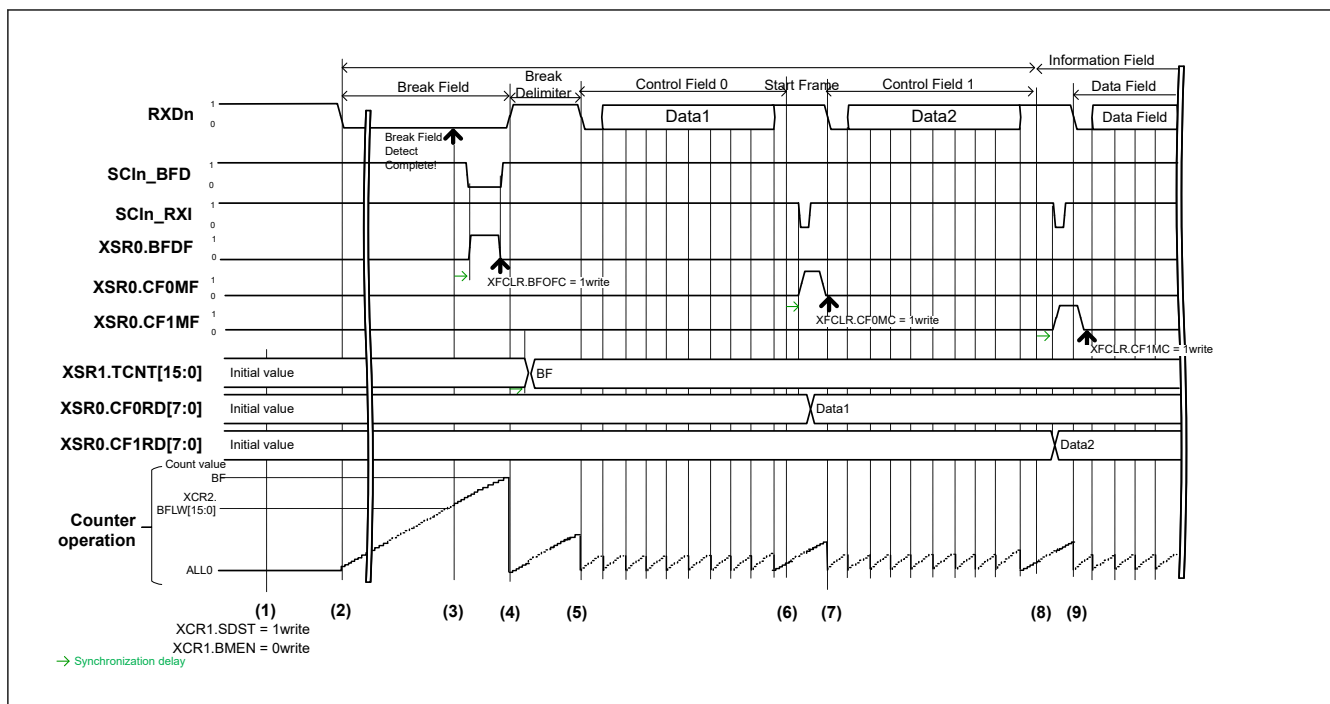
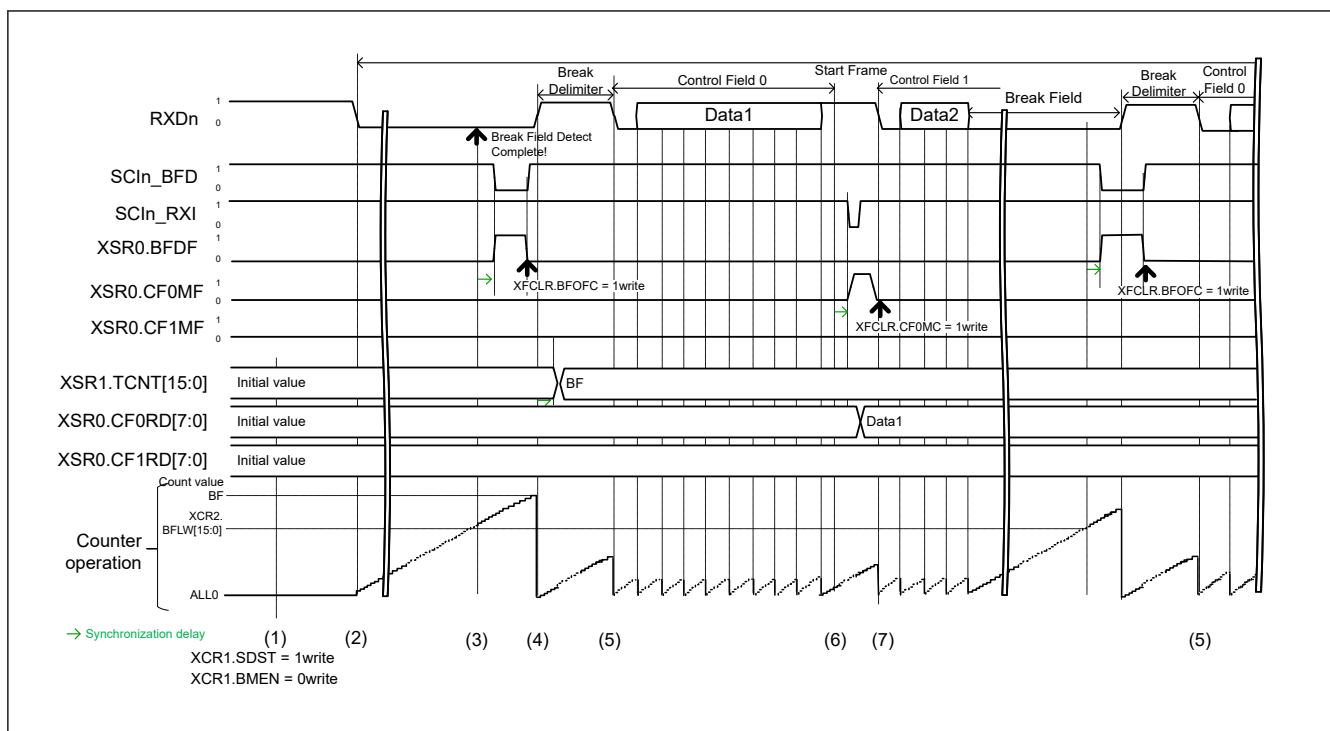
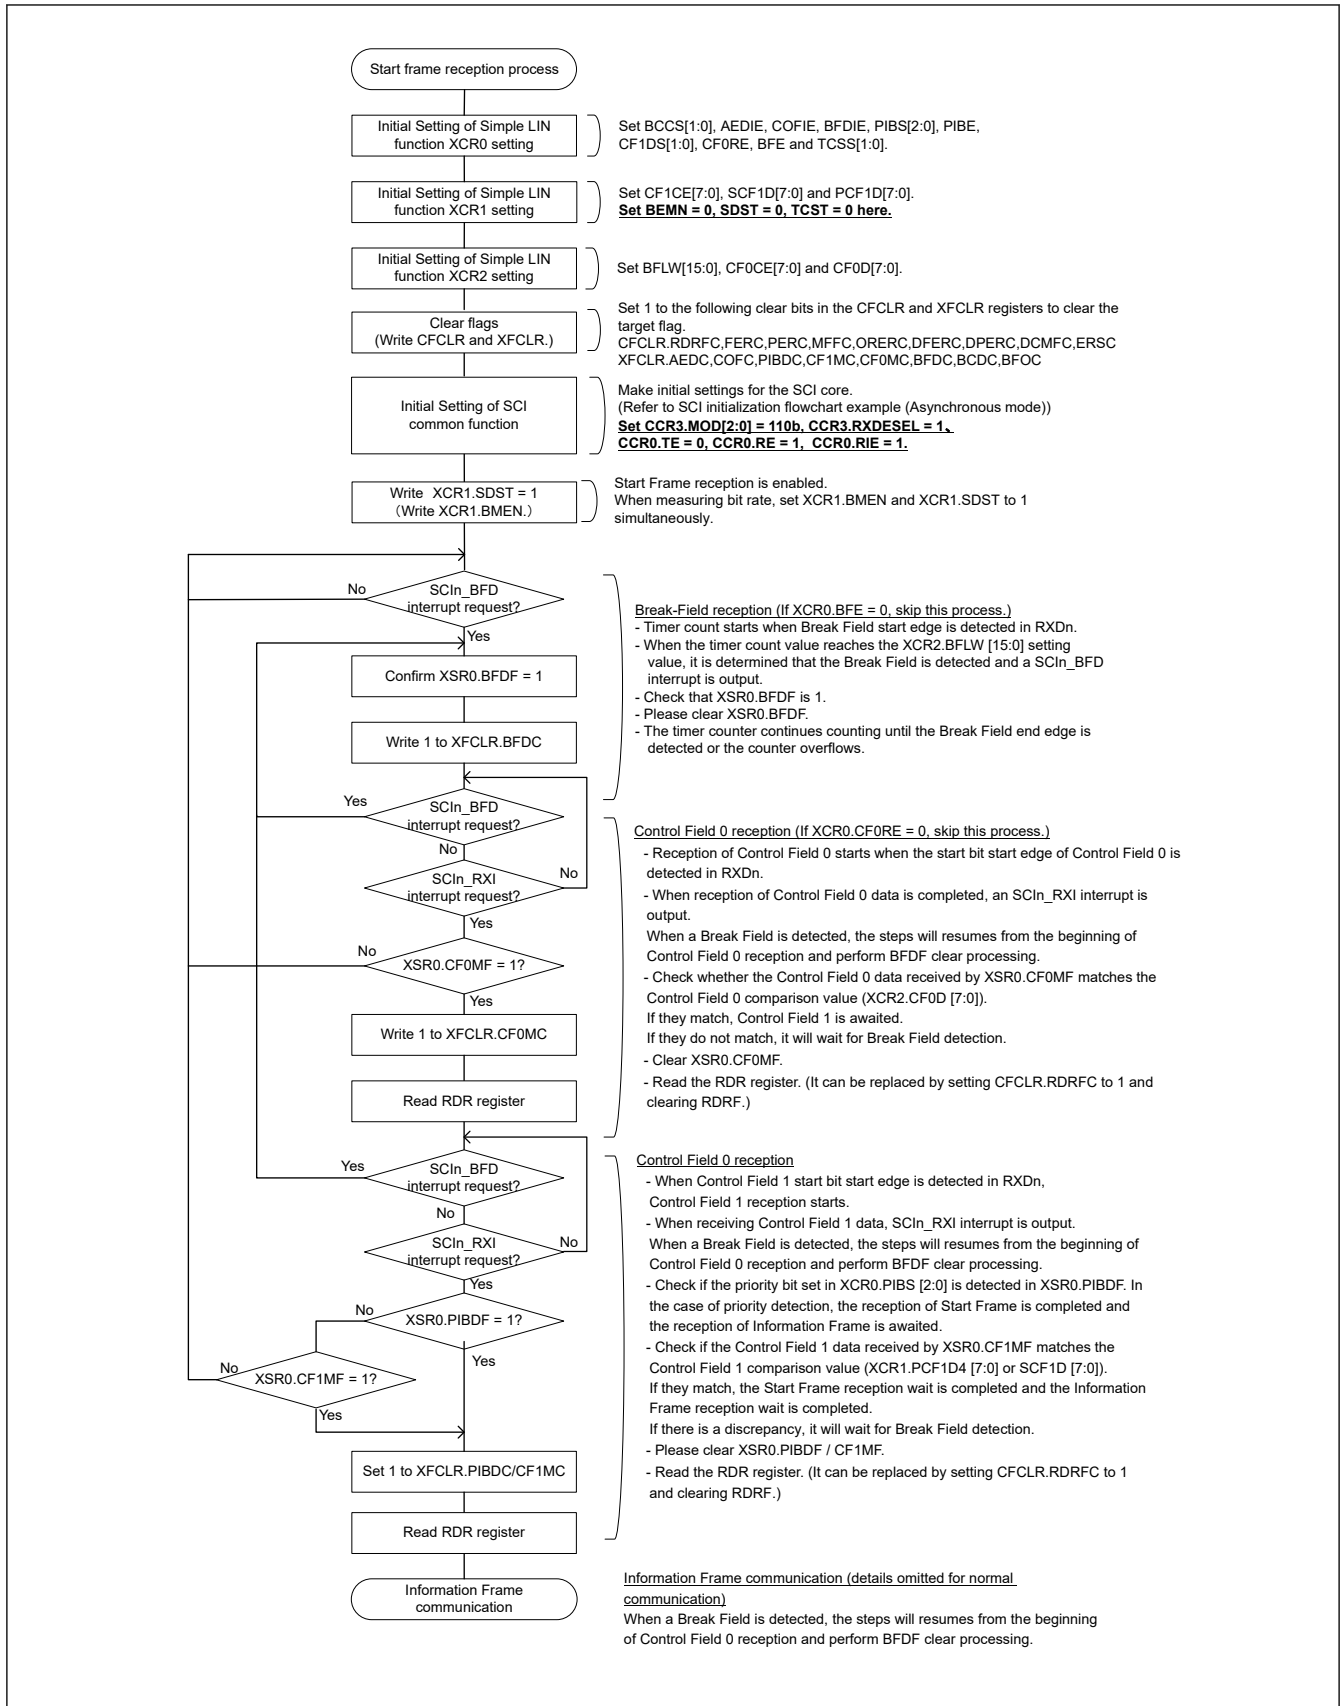
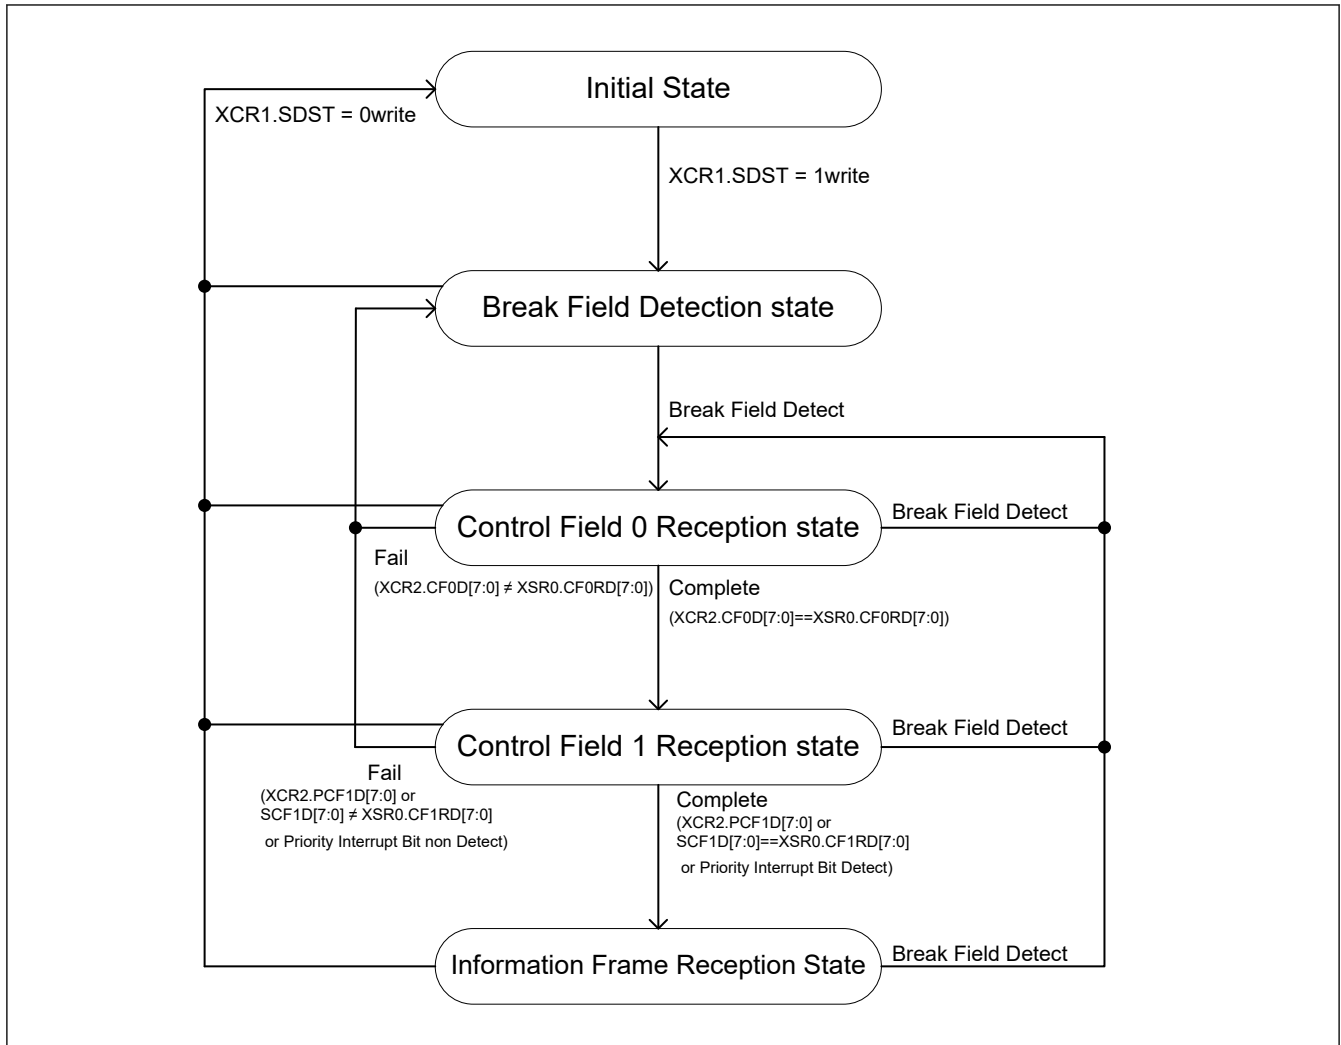

Figure 39.105 Normal Reception Example of Start Frame (PIB Not Used)
Figure 39.106 Start Frame Reception Example (PIB Not Used) Break Field Detected during Control Field 1
Figure 39.107 Example of Start Frame Reception Flowchart
Figure 39.108 State Transition Diagram of Start Frame Reception
Figure 39.105 shows an example of normal reception of the Start Frame consisting of a Break Field, Control Field0, and Control Field1. Figure 39.106 shows an example of reception to detect the Break Field during Control Field 1. Figure 39.107 shows a flowchart to receive the Start Frame, and Figure 39.108 shows a state transition diagram.
- The SCI core starts receiving Control Field 0. Because the simple LIN continuously counts the edge interval, it determines a low level that is equal to or longer than the period set in XCR2.BFLW[15:0] as detection of the Break Field. When the Break Field is detected in the Control Field 0 phase, the SCI core waits for reception of Control Field 0 again (Figure 39.106).
Steps (1) to (7) are the same as steps (1) to (7) in the Start Frame reception example in Figure 39.105.
(8) When the value specified in the **XCR0.PIBS[2:0]** bits matches the set **XCR1.PCF1D[7:0]** value, **XSR0.PIBDF** is set to 1 and the SCI core performs communication of the Information Frame. If the data received in Control Field 1 matches neither the set **XCR1.PCF1D[7:0]** value nor the set **XCR1.SCF1D[7:0]** value and the priority interrupt bit is not detected, the SCI transitions to the state before the Break Field is detected.
(9) Communicate information frame at the SCI core.